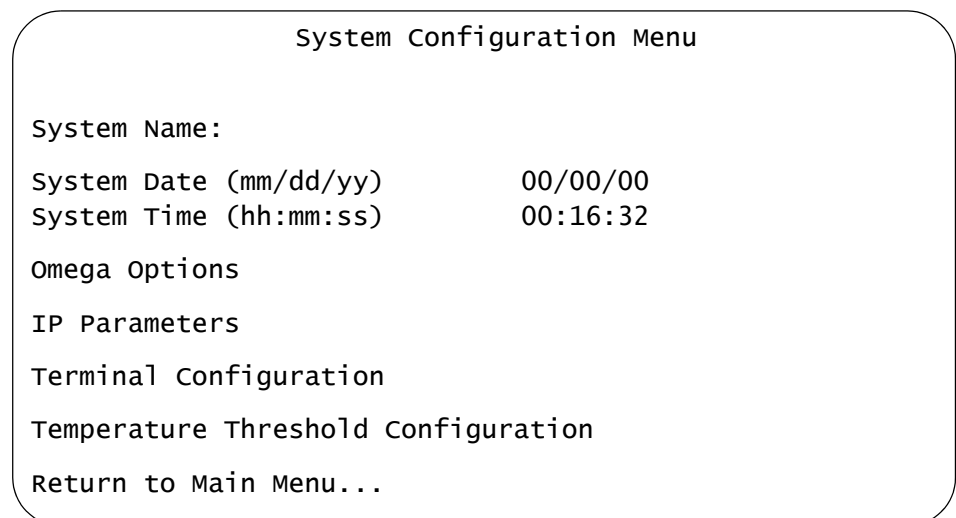

Figure 5. System Configuration Menu
The System Configuration Menu, as shown in Figure 5, is displayed.
1. From the Main Menu, select **System Configuration**. The System Configuration Menu, as shown in Figure 5 on page 35, is displayed.
The System Configuration Menu, as shown in Figure 5 on page 35, is displayed.